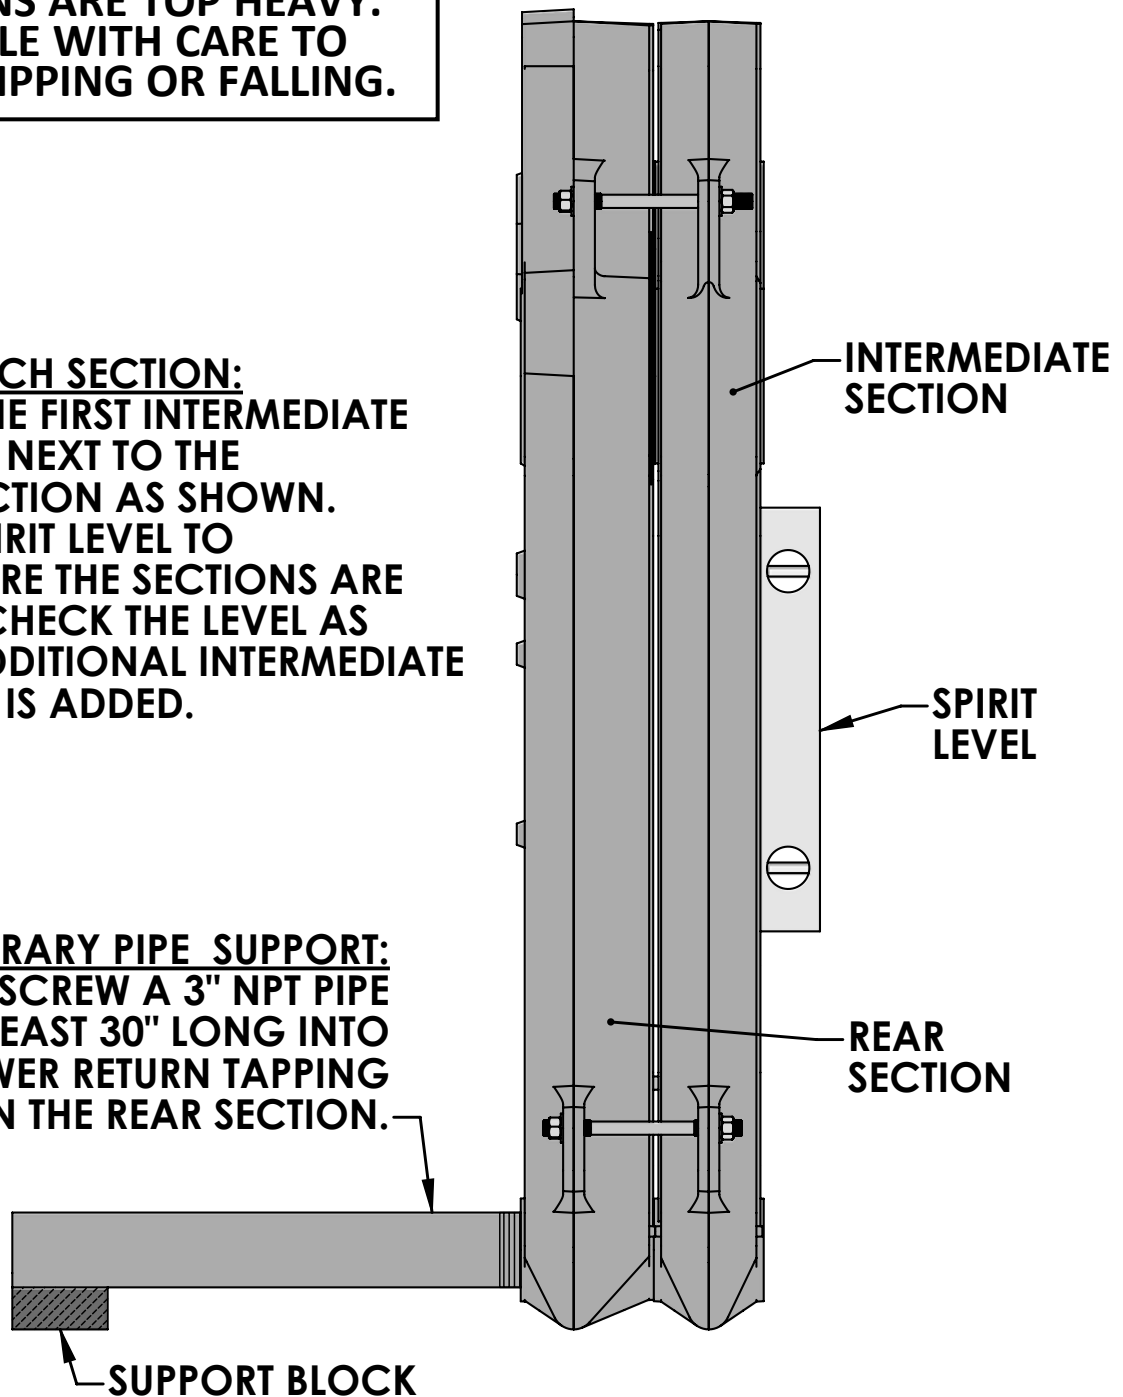

Figure 2.4: Install Additional Sections. Use level on each section as tie rod bolts are drawn up.
11. Screw a 3" pipe at least 30 inches long into the lower 3" tapping on the back of the Rear Section as shown in Figure 2.4. Place a block under the pipe as shown in the figure and use as a brace during assembly.
- Use a spirit level as shown in Figure 2.4 to check the alignment of the sections as the nuts are drawn up. Keep the sections plumb.